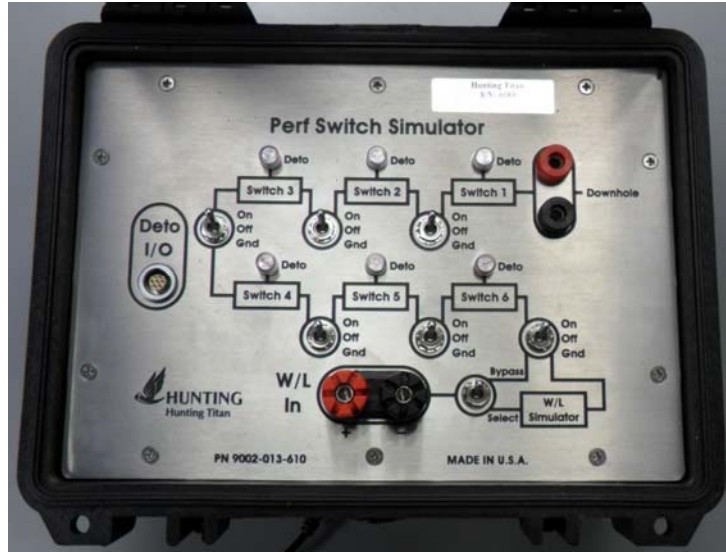

Figure 3
6. Line Output Test Cable and (1) UHF Female to double banana pin connector to plug into the WL Switch Simulator
- **Perf Switch and Wireline Simulator Panel** – Shown in Figure 3 is a Perf Switch Simulator that allows the user to perform demonstration, training exercises, and troubleshoot/verify wireline interconnections at the well site.